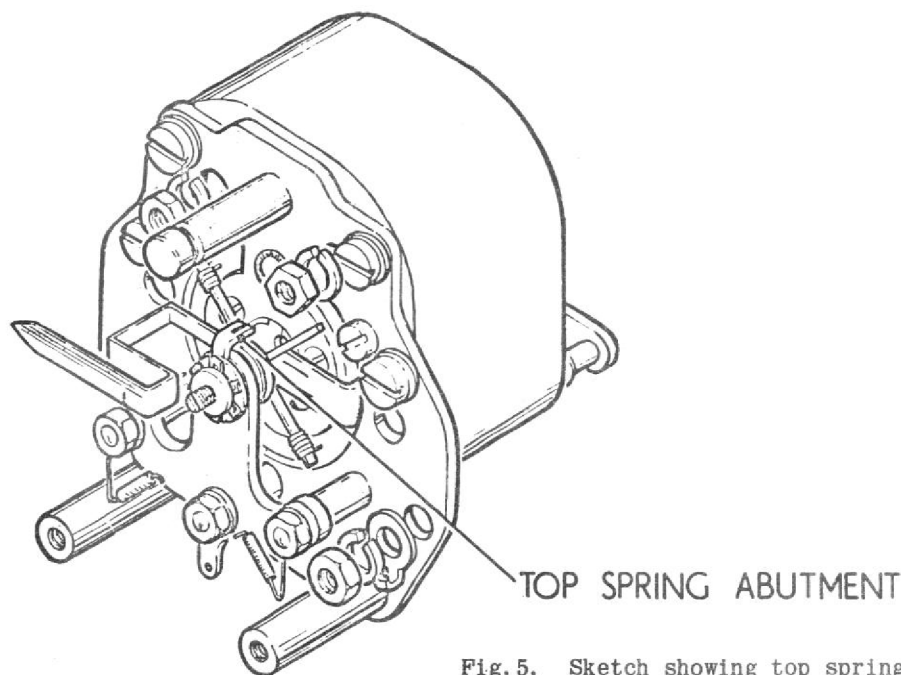

Fig.5. Sketch showing top spring abutment.
- (9) Pointer adjustment is made with the top spring abutment (Fig.5.) positioned so that the available pointer adjustment is symmetrical about the SET cardinal. Connect the indicator into the circuit described in sub-paragraph A(2). Inject millivolts corresponding to the SET cardinal and adjust the top spring abutment to give symmetrical movement of the pointer either side of this cardinal when the pointer adjuster is manipulated.